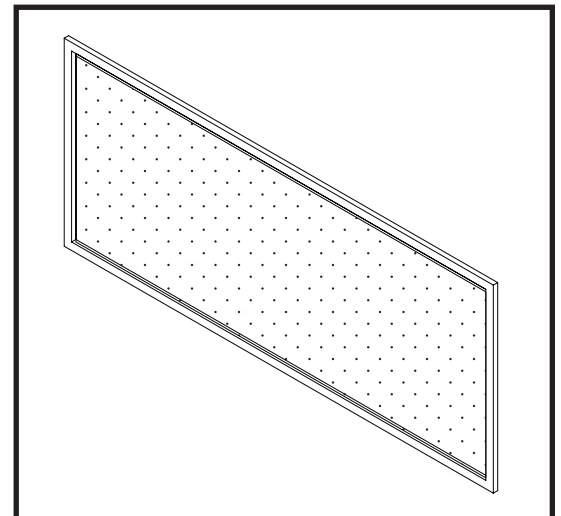

Figure 56: TCWS54 Safety barrier screen.
6. Attach the magnetic safety barrier screen (Figure 56) to the outer-most door frame. (Replacement part # 80002227).